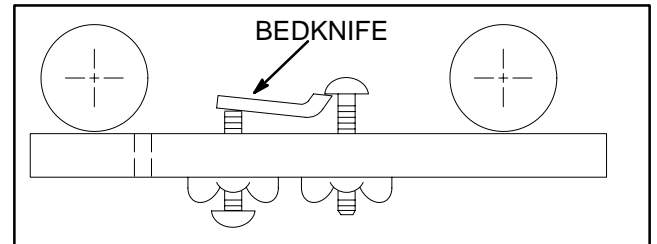

Figure 19
3. Place gauge bar across front and rear rollers. Front screw head should fit snugly over edge of bedknife and end of rear screw should contact bottom of bedknife (Fig. 19 & 20). Front and rear rollers should contact gauge bar. Verify attitude at each end.